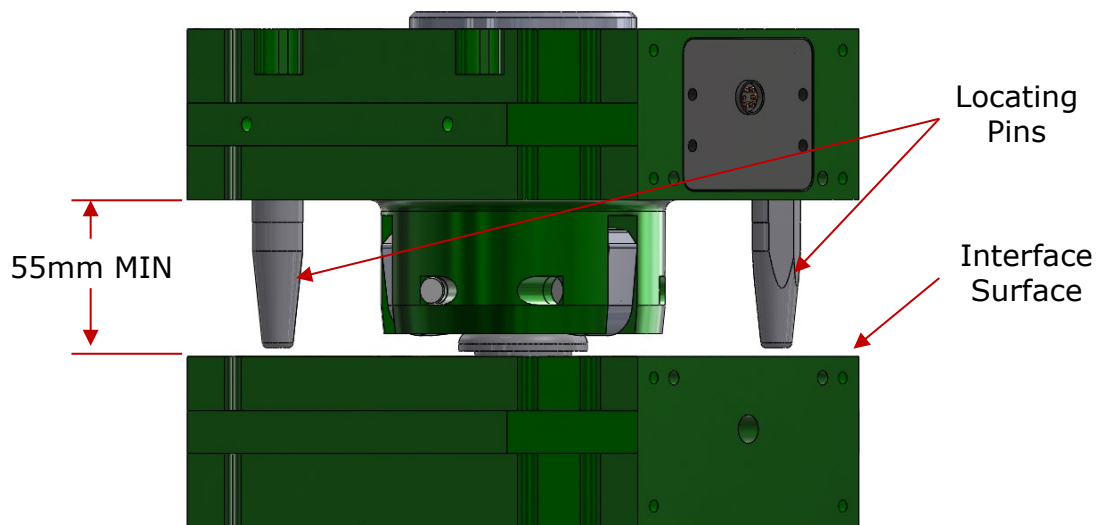

Figure 6.2-1. E125 Tool Changer – Docking Orientation
1. Orient the Robot Side and Tool Side so that the centerline axes are aligned and the interface surfaces are parallel. Maintain approximately 55mm minimum separation between the Robot Side and Tool Side interface surfaces (Figure 6.2-1).